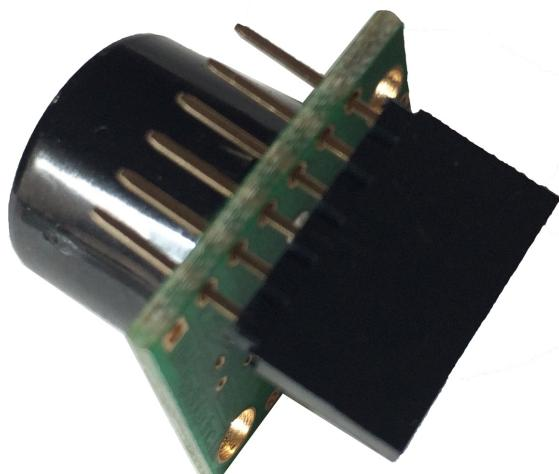

Figure 12-2 Ultrasonic sensor with headers before soldering
2. Solder some headers to the sensor (Figure 12-2), so that you can easily fiddle with your connections. The most important connections for this project are GND (ground), +5 (voltage in), and AN (analog output signal).